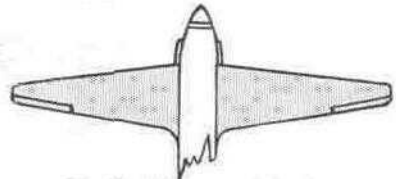

Fig. 17. Full taper to both edges
- (c) Full taper (Fig. 17). An example is the Lockheed "Hudson."